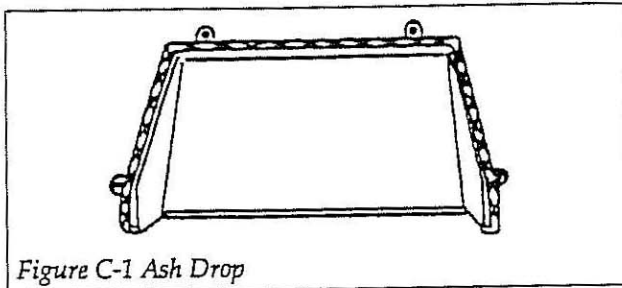

Figure C-1 Ash Drop
1. Place the stove bottom upside down. Put a generous bead of cement around the top edge of the ashdrop. See figure C-1 below. Attach the ashdrop to the bottom with four hex bolts.